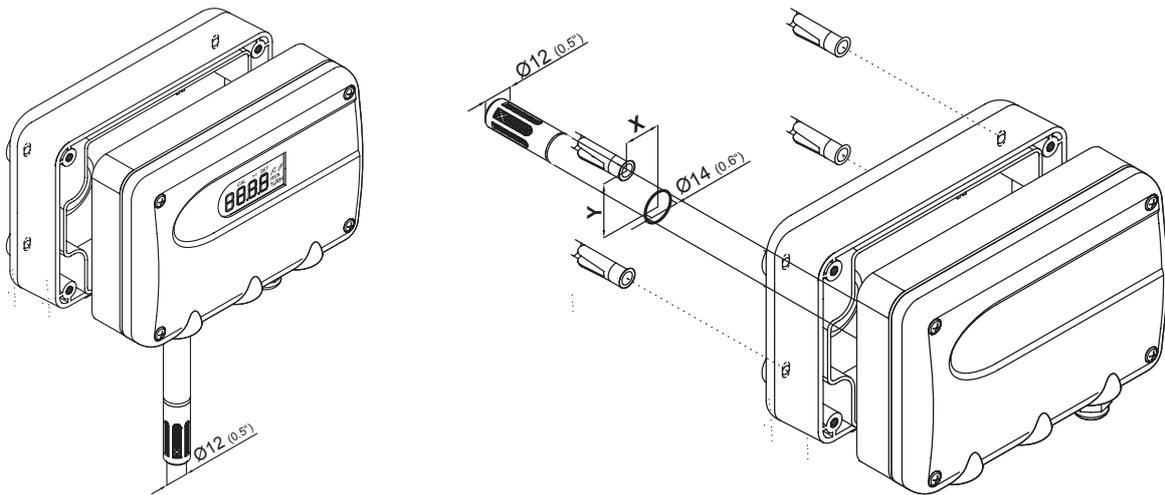

Fig. 7 T1 Wall mount
1. Only for model T2 (duct mounting). Drill the hole for inserting the probe into the duct wall, Fig. 7. The relevant position of top left mounting screw of the back cover with respect to the probe center: